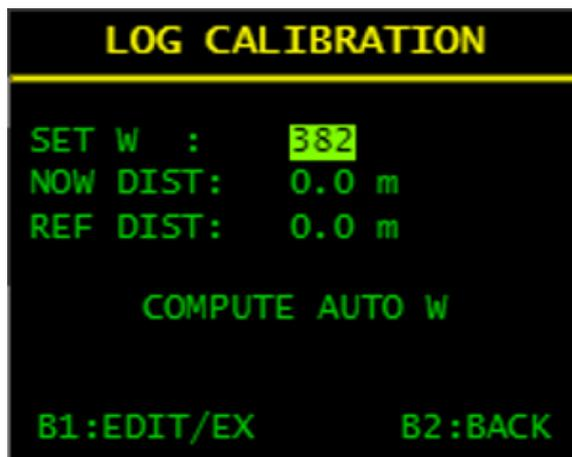

Fig 94 - Log calibration
- **B2** Short press to scroll the following data (**Fig 94 - on p. 50**):